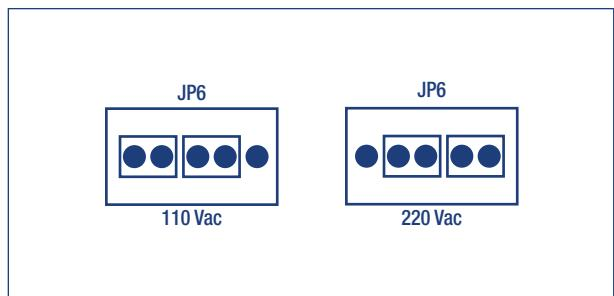

Figure 3 JP6 on Main Board
- 4 Set JP6 for the desired voltage. See Figure 3.
J1 1 2 3	Accepts Power from Either a 110 or 220 Vac Source. Jumper JP6 on the Main Board Must be Adjusted to Switch Between 110 and 220 Vac. See Figure 3. <ul style="list-style-type: none"><li>• AC Line Connection (No Connection for DC Operation)</li><li>• AC Neutral Connection (No Connection for DC Operation)</li><li>• Earth Ground</li></ul>